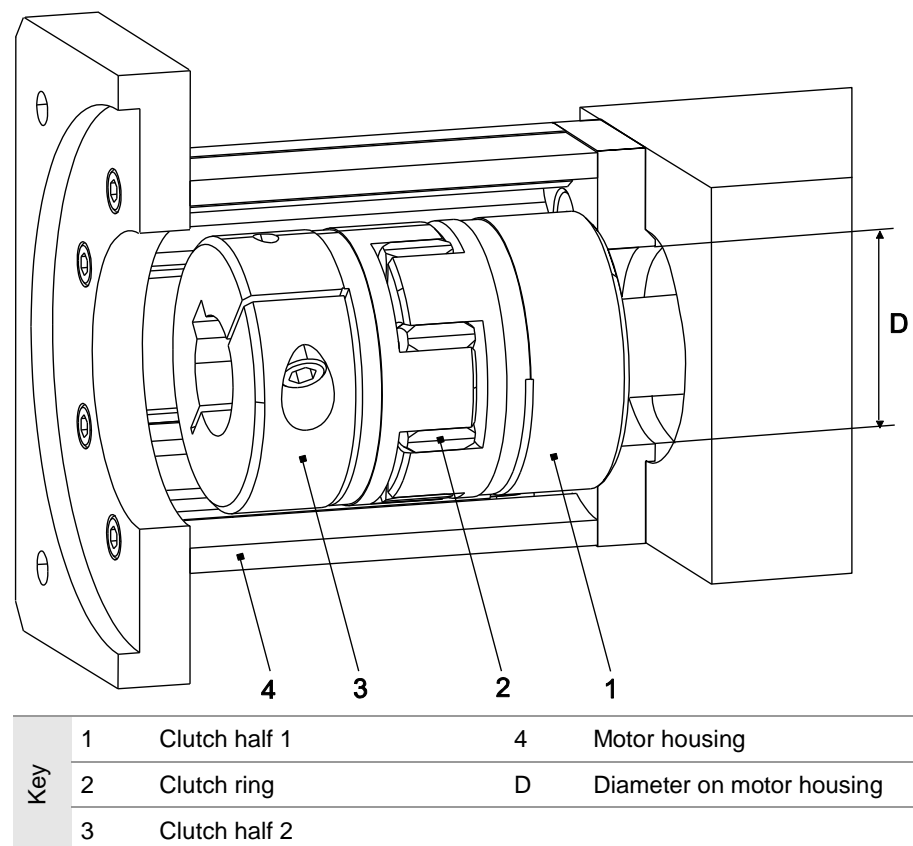

Figure 7: Motor housing with motor clutch on drive pin
3. If the clutch diameter is less than the measure D on the motor housing (4), first mount clutch half 1 (1) (hole flush with drive shaft) and then the motor housing (4) (figure 7).